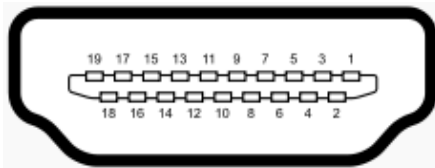

Figure 3-32: External HDMI Connector Location
- CN Location:** See **Figure 3-32**